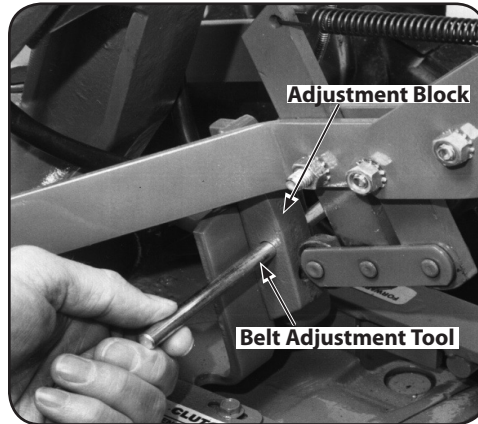

Figure 5-15
3. Insert the belt adjustment tool through the hole in the side of the adjustment block, spacing the ends of the tool equally on both sides. See Figure 5-15. Rotate the tool so the slotted end faces down.